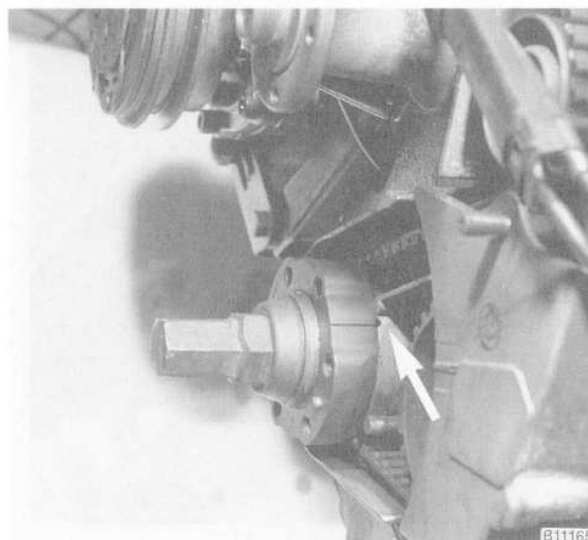

Fig. 7. Crankshaft hub aligned with mark on front engine cover (arrow).
1. Check that the crankshaft and camshaft timing marks are correctly aligned. See Fig. 4 above. Also check that the notch on the inner cover aligns with the mark on the sprocket. See Fig. 7.